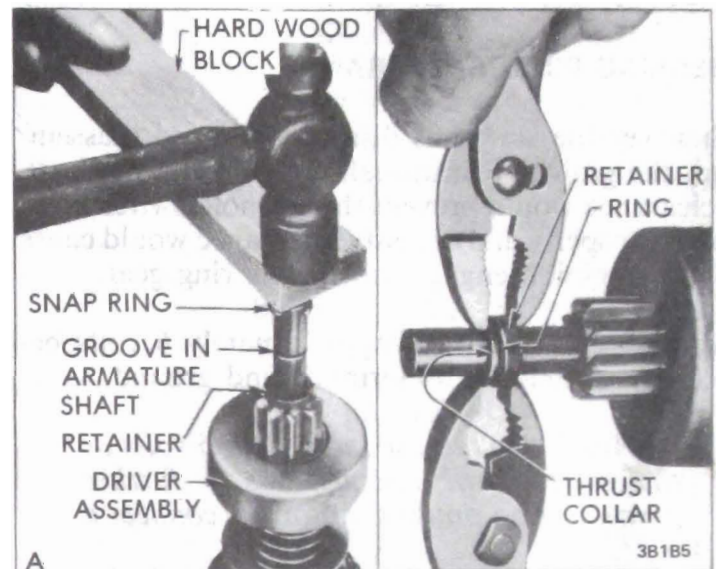

Figure 1B-5 Installing Snap Ring and Retainer
3. Install a new snap ring in groove on armature shaft using a block of hardwood and hammer to get it started onto shaft. See Figure 1B-5.
4. Slide thrust collar onto shaft, move snap-ring retainer up to snap-ring and using pliers on opposite sides of the shaft, squeeze retainer and thrust collar until the retainer is forced over the snap-ring. See Figure 1B-5.